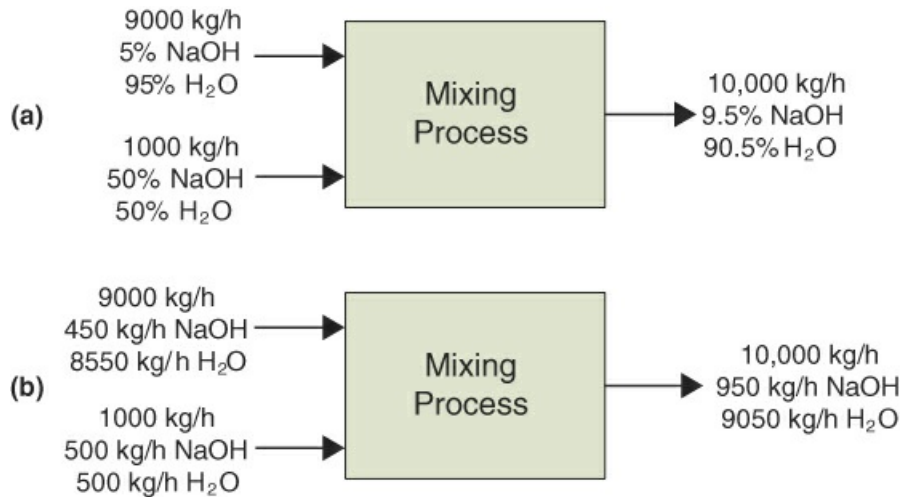
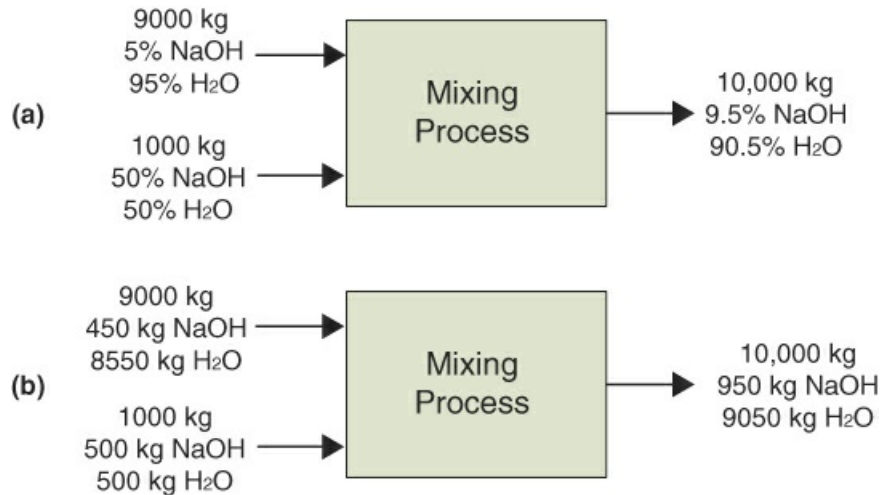

Figure 3.8 Two ways in which a process can be represented (a) in terms of compositions; (b) in terms of component flow rates
Figure 3.9 Combining specific amounts of material (a) in terms of compositions; (b) in terms of masses of components
Now consider the mixer shown in Figure 3.8, a process that mixes a dilute stream of NaOH with a smaller flow rate of a concentrated stream to increase the concentration of NaOH in the dilute solution. Note that there are two ways to represent this process: (a) using compositions and (b) using component flow rates. Each approach has its advantages depending on the particulars of a problem. Both of these approaches provide the same information, just in a different form (i.e., the mass flow rate is simply the composition times the total stream flow rate, and the composition is simply the ratio of the component mass flow rate to the total stream flow rate).
Using the values of the component flow rates listed in Figure 3.8, the total and **component balances** for mass and moles can be written using Equation (3.2). Note that if the tank is well mixed, the concentration of a component in the output stream will be the same as the concentration of the component inside the tank during mixing, an assumption frequently made that is relatively accurate if adequate mixing is used. Assuming steady-state operation of this process and applying Equation (3.2) yields the results shown in Table 3.1.
Note that Equation (3.2) is satisfied for each component, and the total is based on the compositions provided in Figure 3.8 as shown in Table 3.1.
Next, we show the application of Equation (3.2) in terms of moles for Figure 3.8. We can convert the kilograms shown in Table 3.1 to kilogram moles by dividing each compound by its respective molecular weight (NaOH = 40.00 and H₂O = 18.02). The results are shown in Table 3.2.
3.8. As a result, specific amounts of the dilute NaOH solution and the concentrated NaOH solution are combined in the mixing process, as shown in Figure 3.9. Therefore, Equation (3.1) can be used to formulate material balances for this case. That is, 9000 kg of a weak NaOH solution is combined with 1000 kg of a strong NaOH solution. Note that the only difference between this case and the previous case (i.e., Figure 3.8) is that this case considers specific amounts of each stream in units of kilograms, while the previous case considered flow rates of each stream in units of kg/h, but the amounts and concentrations are exactly the same. As a result, the application of Equation (3.1), as shown in Tables 3.1 and 3.2, will be exactly the same for the latter case except that the units are changed from kg/h to kg or kg mol/h to kg mol, respectively.
If we consider the batch mixing of 9000 kg of dilute NaOH with 1000 kg of concentrated NaOH, the system shown in Figure 3.9 applies directly. Therefore, **using a basis of a time interval for material balances on continuous process is equivalent to applying material balances to a batch process.**